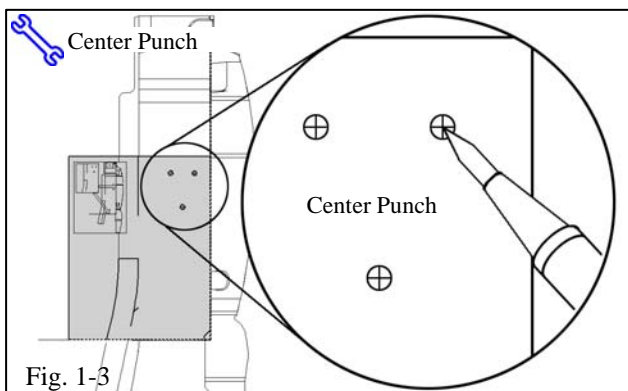

Fig. 1-3
! (4) Using the center punch, carefully mark the center of the three mounting holes thru the template onto the sheet metal (Fig. 1-3).